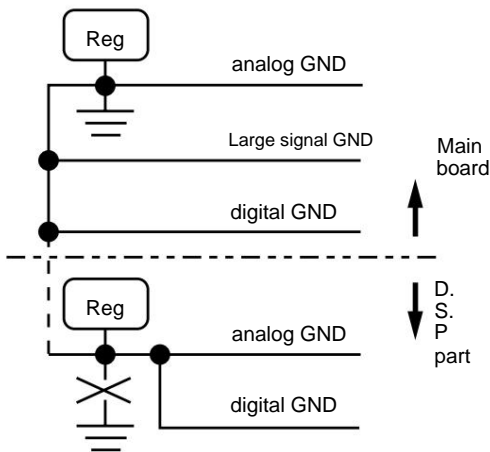

Fig.17 GND connection of DSP section
- Connect the GND of the DSP board block to the DSP power supply regulator. and connect to the main board (Fig. 17)
- (3) Deletion of chassis ground for DSP board block